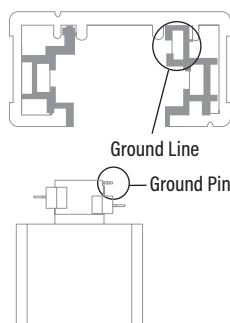

Fig. 3
4. While holding the adapter aligned with the track, push the fixture upward. Then while pulling down on the adapter sleeve twist the body of the fixture 90 degrees until the locking tabs on both sides of the adapter snap into the track groove. (Fig. 3 & 4) *Note: The ground pin needs to be touching the grounding line. The fitting only rotates in one direction. Do not forcefully rotate the fitting in the wrong direction as it may damage it.*